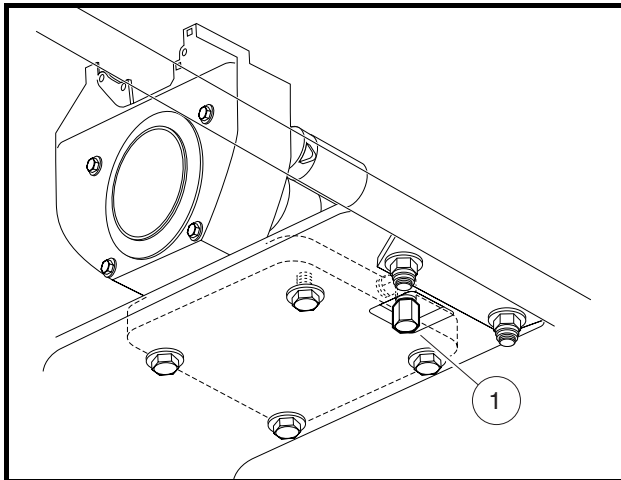
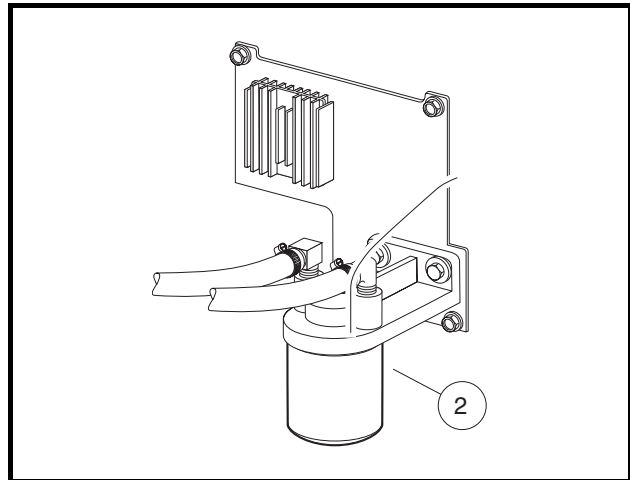
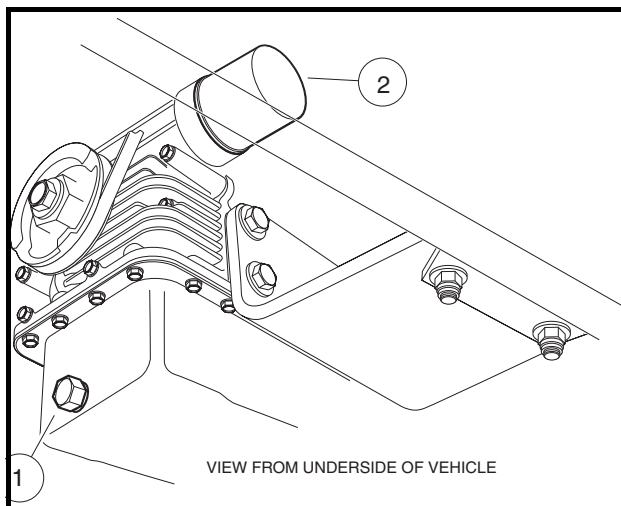

Figure 10-7 Engine Oil Drain Plug and Pan – Gasoline Vehicles
Figure 10-8 Replace Engine Oil Filter – Gasoline Vehicles
Figure 10-9 Engine Oil Drain Plug and Oil Filter – Diesel Vehicles
4. Position a pan designed for oil changes under the drain plug (1) (**Figure 10-7, Page 10-8** or **Figure 10-9, Page 10-8**).
5. From the underside of the vehicle, use a socket- or box-end (do not use an open-end) wrench to remove the drain plug (1). Turn the plug counterclockwise and drain the engine oil into the pan. **See following WARNING.**
2. Place the oil drain pan under the engine oil filter (2) (**Figure 10-8, Page 10-8 or Figure 10-9, Page 10-8**).